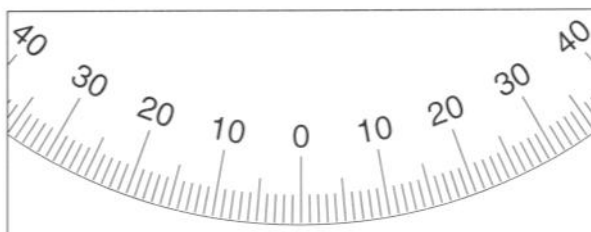

Fig. 28: Section of Declination setting circle.
- **Declination Setting Circle:** The Dec setting circle (Fig. 28) has been factory set to read the correct Declination of sky objects. Since the smooth knob on this fork mount arm need never be loosened, the Dec setting circle should always remain calibrated.